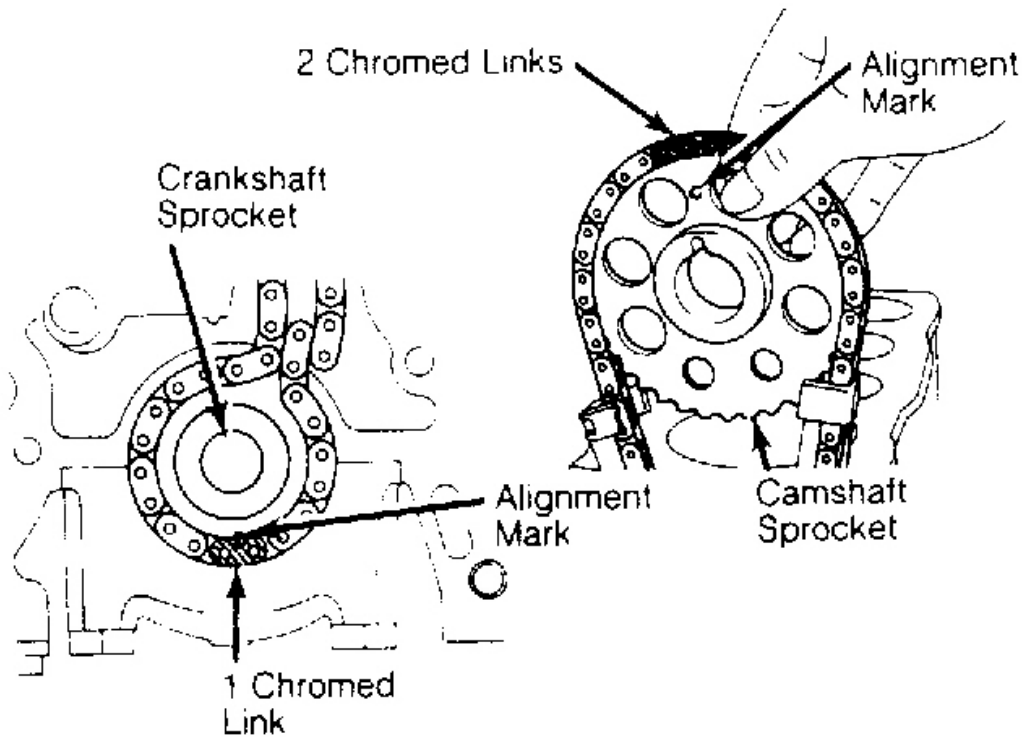

Fig. 3: Aligning Camshaft Sprocket and Timing Chain
2. Install cam sprocket in chain so that timing mark on sprocket is located between 2 chromed links. See **Fig. 3**. Slide oil pump drive spline over crankshaft key. Install cover assembly with new gasket over dowels and pump spline.